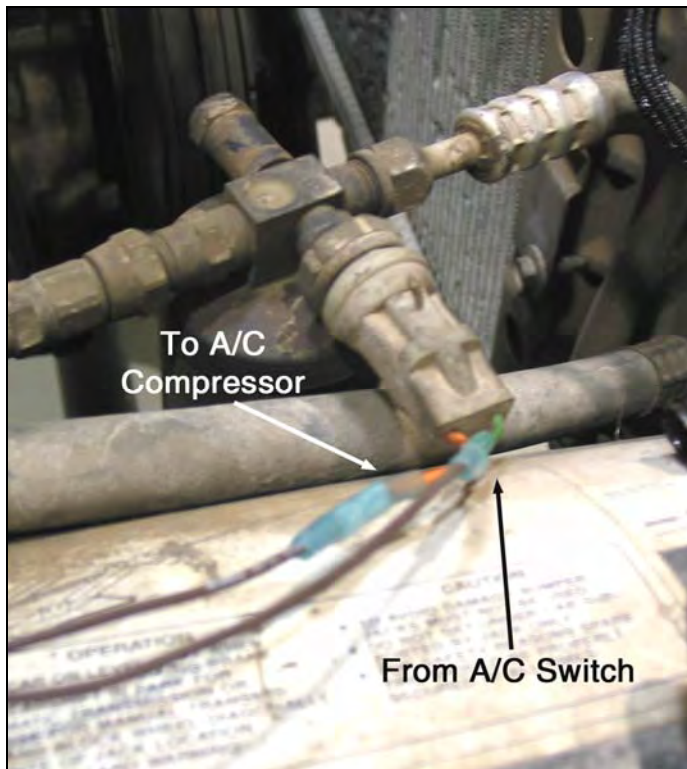

Figure 11.8.4 A/C Pressure Switch
- 11.8.4 Brown wire #902 "A/C COMPRESSOR ACTIVATION" will connect to one side of the A/C pressure switch. Connect the other side of the A/C Pressure Switch to the A/C compressor. This can be done using wire cut from #902. See **Figure 11.8.4**